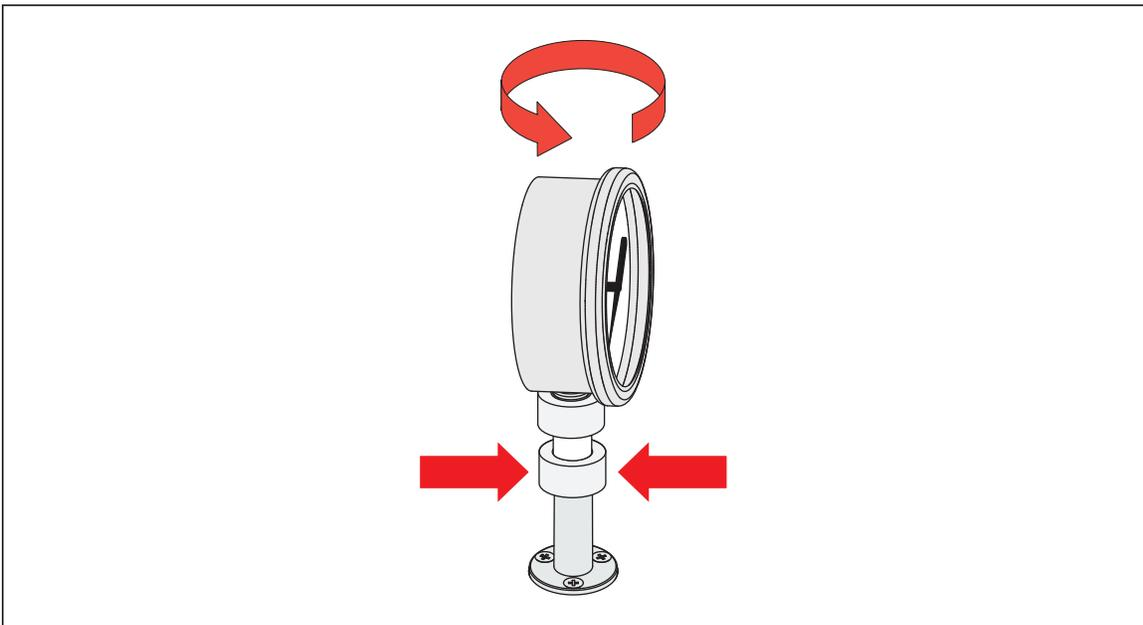

Figure 13. Adjust Gauge Position
- 4. Hold the instrument steady, while turning the gauge adapter COUNTER-CLOCKWISE until it pulls down onto the O-ring, see Figure 13.